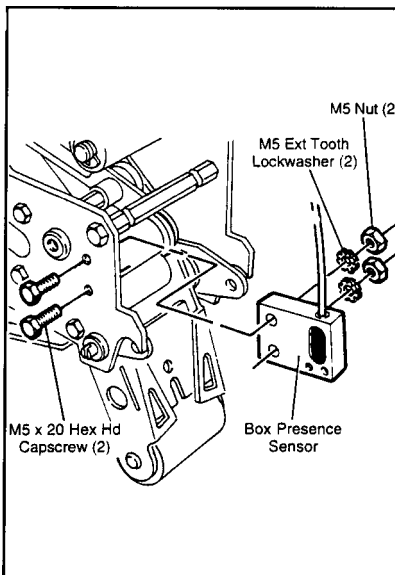

Figure 3
5. Attach the box presence sensor to the side plate using (2) M5 x 20 mm lg. hex head nuts, external tooth lockwashers and nuts provided. See Figure 3. **Do not tighten screws** (to be tightened after later alignment). The box sensor cable should face 180° away from where the corrugated box would be during case sealer operation.
6. Assemble the new magnet shaft, magnet holder, bushing and cut-off springs as shown in Figure 3. Hold assembly together and insert into cut-off frame with magnet holder **towards** box presence sensor. The two dowels on the magnet holder will locate the magnet holder on the cutoff frame.